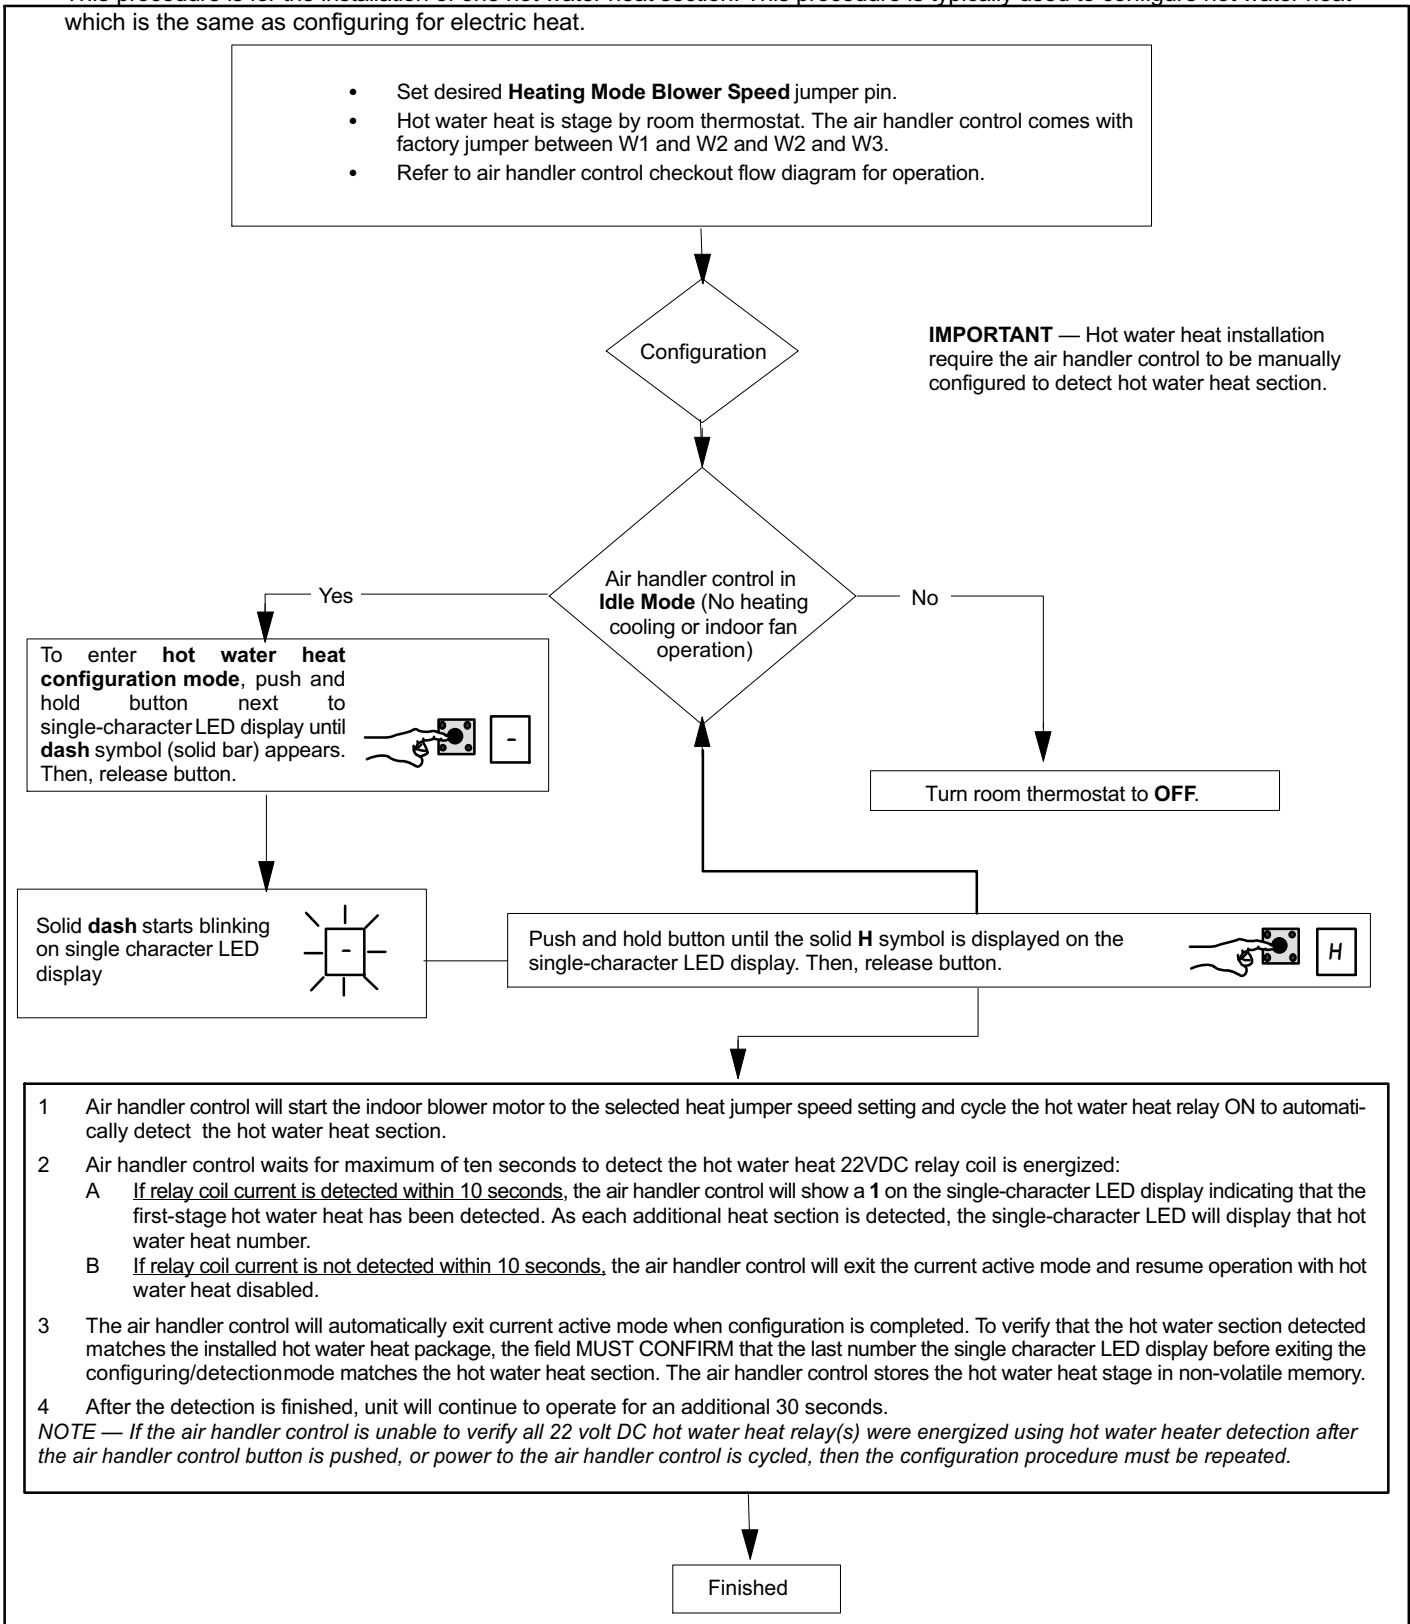

Figure 4. Heat Discovery Mode
- Heat pump with hot water heat (see figure 4).
In applications with condensing units, configure ComfortSense[®] 7000 for hot water heat (see figure 4).
In icomfort[™]-enabled systems, see figure 4 for heat discovery procedures and the icomfort[™]-enabled thermostat installer guide to configure the thermostat.